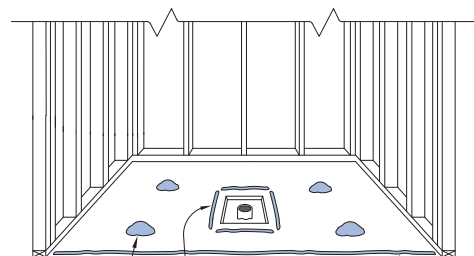

Figure 9
10. Apply 100% silicone sealant caulking pads, 3/4" high by 3" wide, equal distance side to side. Also apply a bead of silicone along the marker line drawn at the front of the alcove (refer to step 9) as well as along the outside of the 10" x 10" box out for the drain. **See Figure 9.**